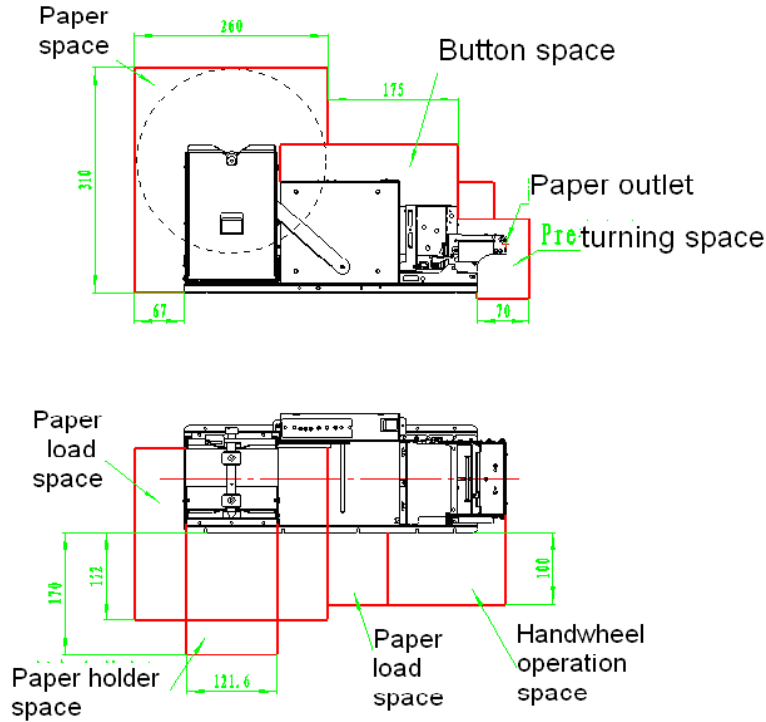
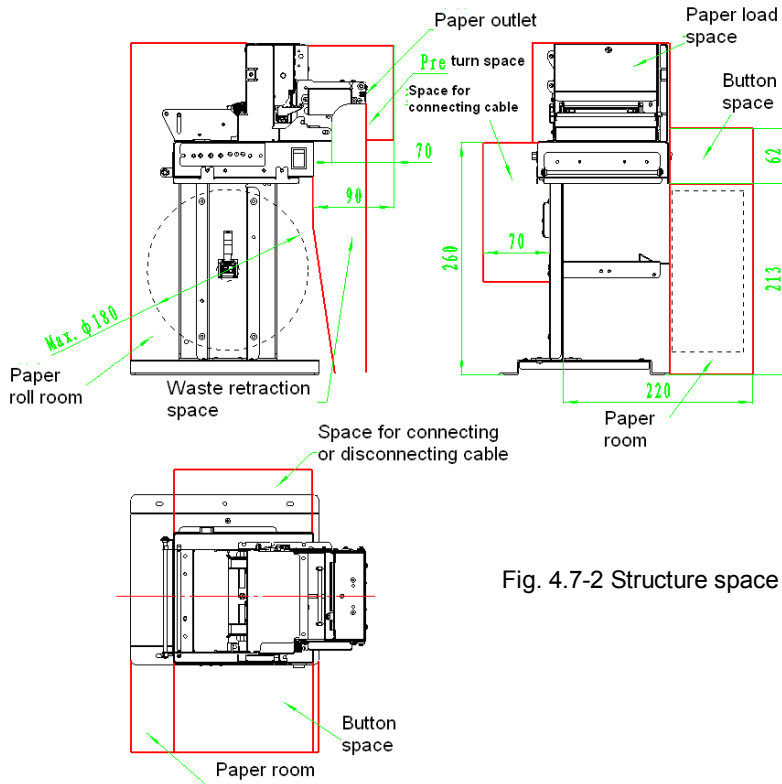

Fig. 4.7-1 MTP7632 space with standard paper holder
Fig. 4.7-2 Structure space compatible with MTP7632 vertical holder
Refer to the dimension as below in the design for reserving spaces (see Fig. 4.7-1 and Fig.4.7-2 MTP7632 structure space)
2. Shown as “2” item in the Fig. above: After Presenter finishes the printing, the paper which is not needed shall retract shown as “2” item in the Fig. above. Therefore enough space should be reserved and waste collection device is designed to keep the retracted paper. ( The size is shown in Fig.4.7-2);